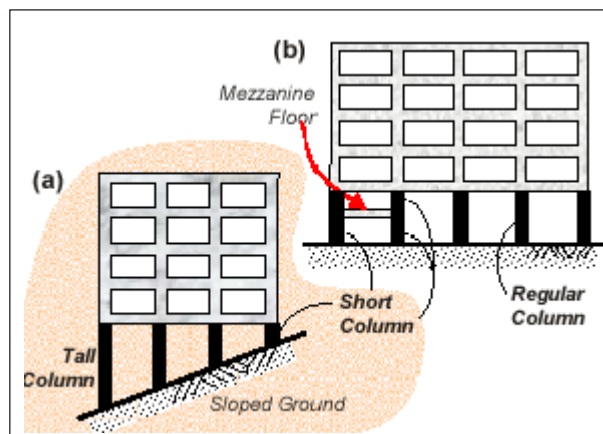

Figure 1. Buildings with short columns – two explicit examples of common occurrences.
During past earthquakes, reinforced concrete (RC) frame buildings that have columns of different heights within one storey, suffered more damage in the shorter columns as compared to taller columns in the same storey. Two examples of buildings with short columns are shown in *Figure 1* – buildings on a sloping ground and buildings with a mezzanine floor.